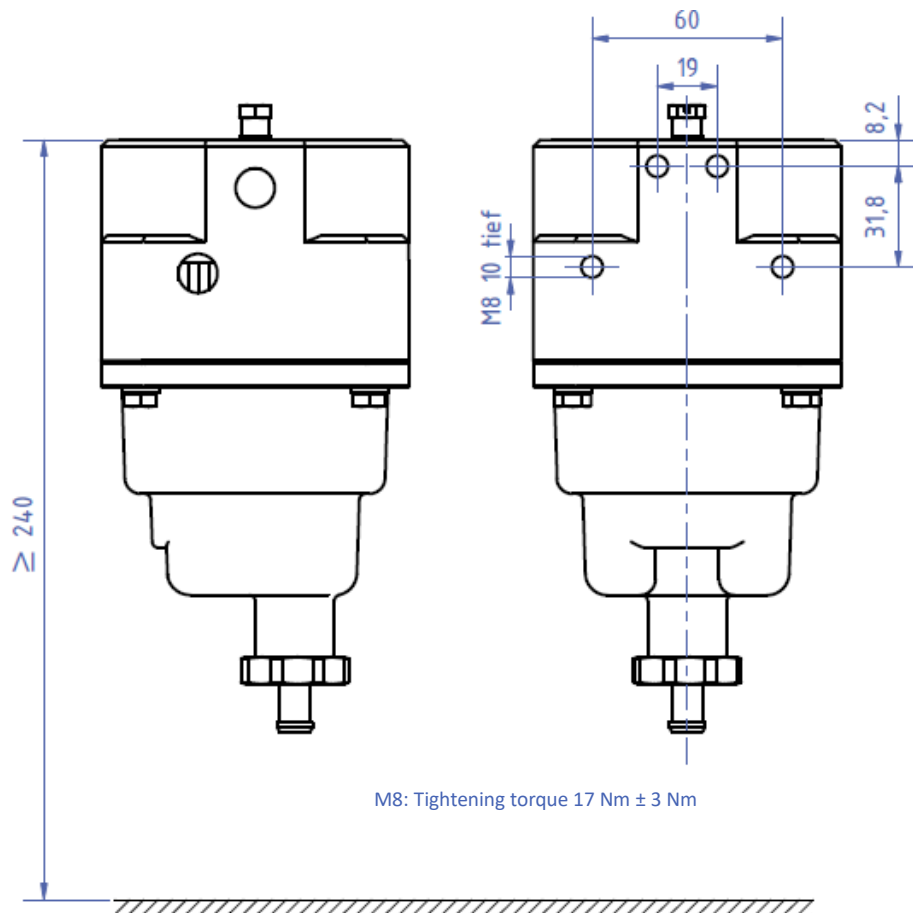

Figure 5: Mounting dimensions
1. Drill two holes at the correct positions according the figure 5.